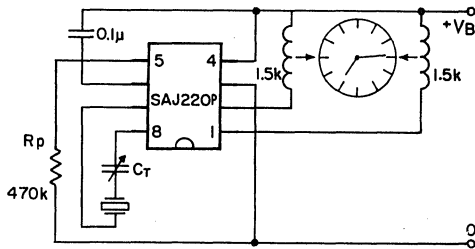

Fig. 4
3. Reset with switching Pin 1 to negative. Fig. 4.